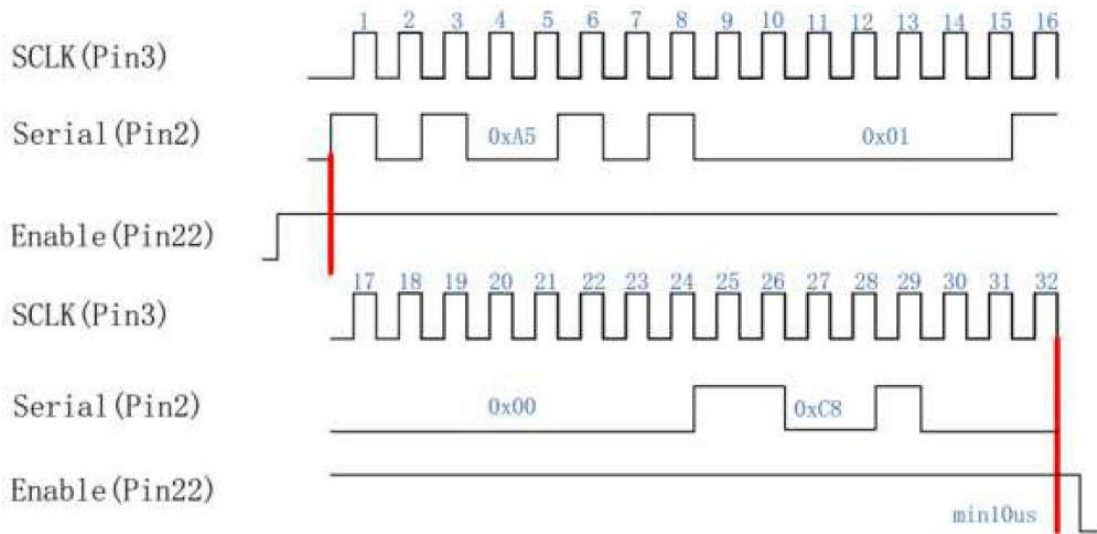

Figure 7 Schematic of laser pulse duration adjustment (200ns)
e) PIN22 is the Enable signal. The Enable should achieve high state at least 10us before PIN2 and PIN3 changing. The Enable should achieve low state at least 10us after PIN2 and PIN3 changing. Figure 7 shows the adjustment process of laser duration control.